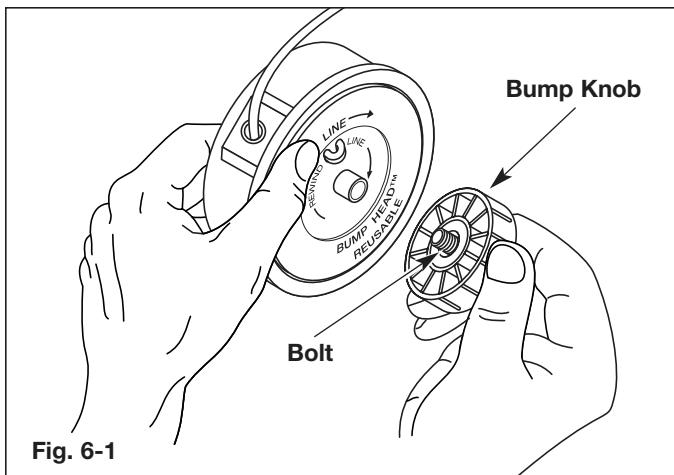

Fig. 6-1
1. Hold the outer spool with one hand and unscrew the bump knob **counterclockwise** (Fig. 6-1). Inspect the bolt inside the bump knob to make sure it moves freely. Replace the bump knob if damaged.